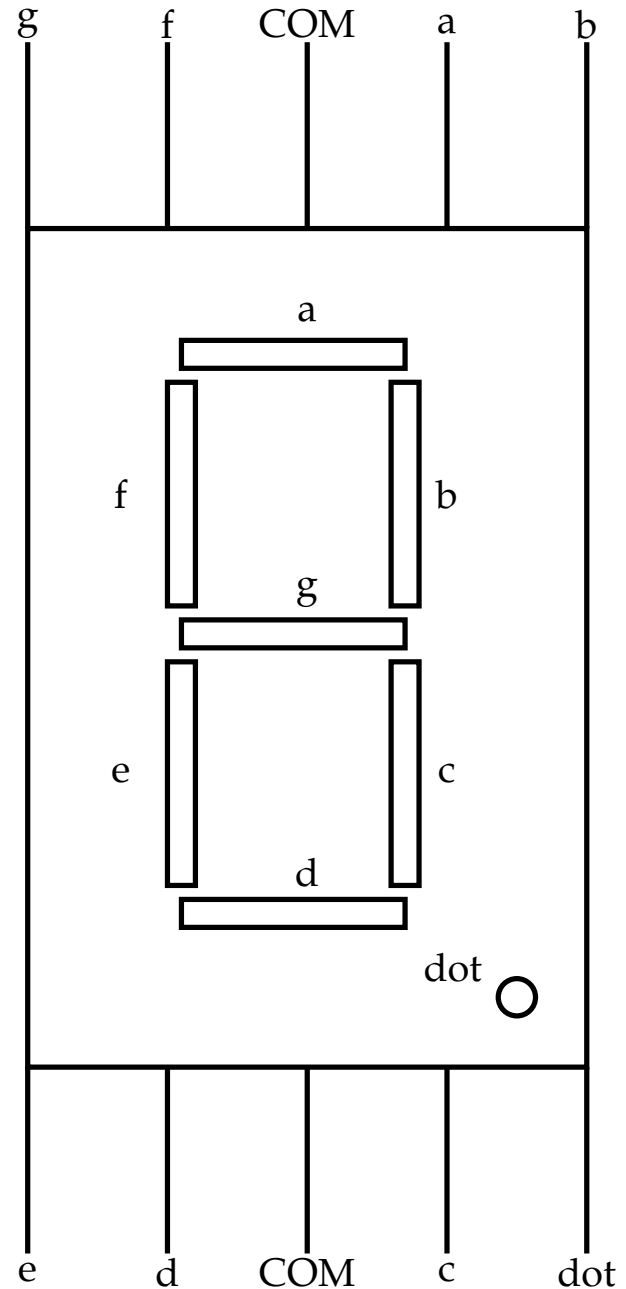
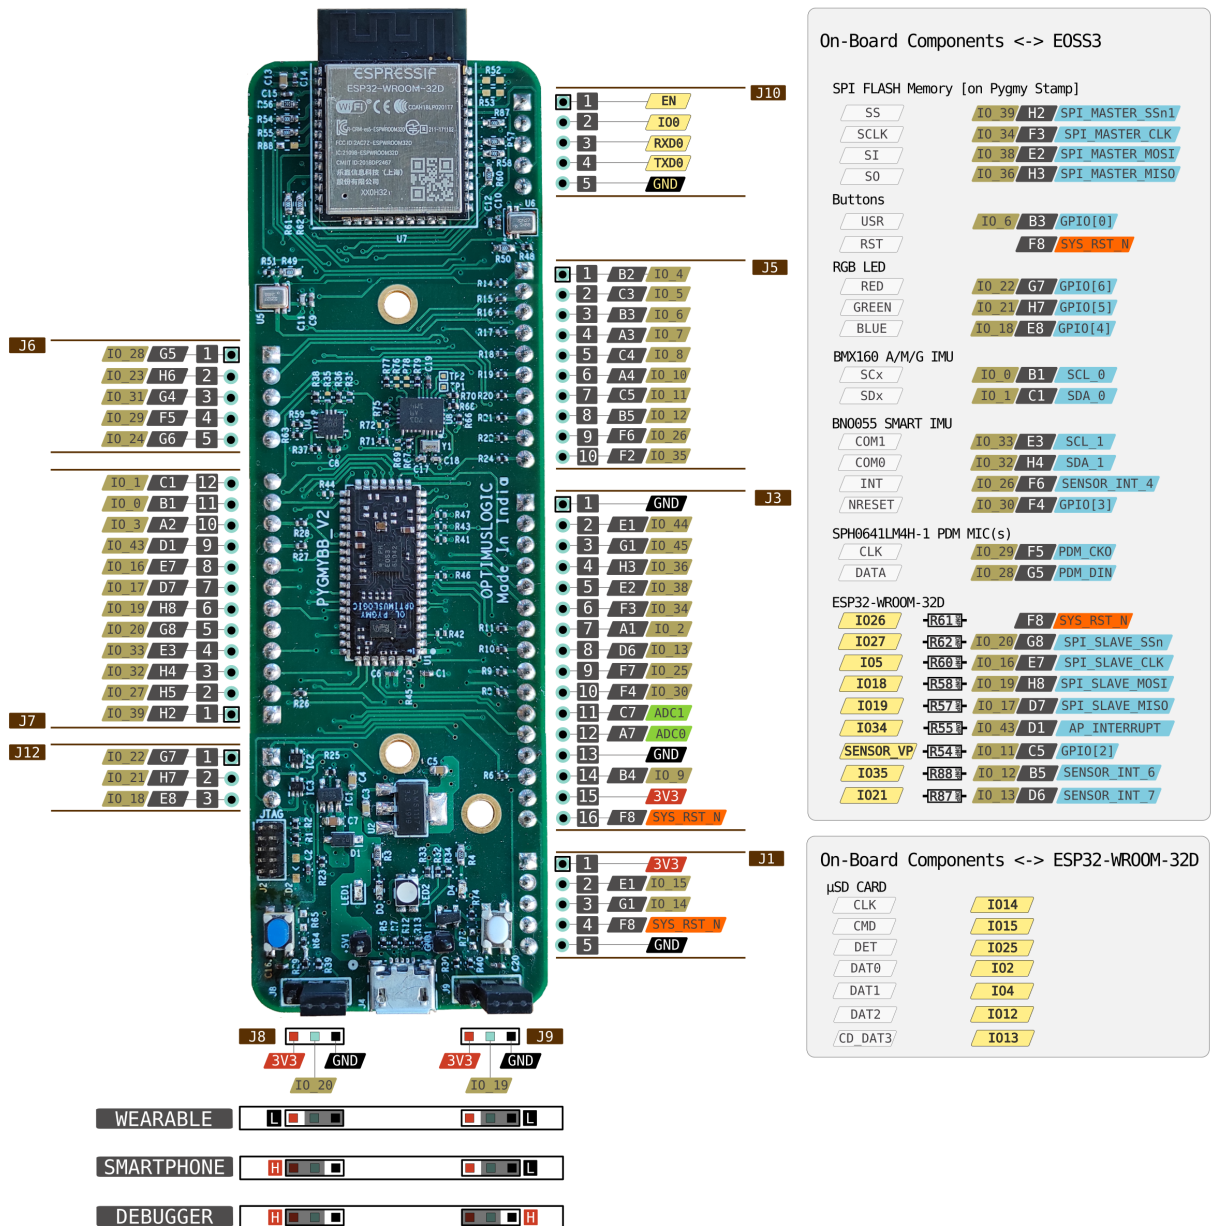

Fig. 2.1.1: Seven Segment Display
Fig. 2.1.3: Pin Diagram
2.1. Fig.2.1.3 shows all the pin banks of the Vaman. Connect the pins of the display in Fig. 2.1.1 to bank J5 of the Vaman using Table 2.1.1. The COM pin should be connected to 3.3V through a resistor.